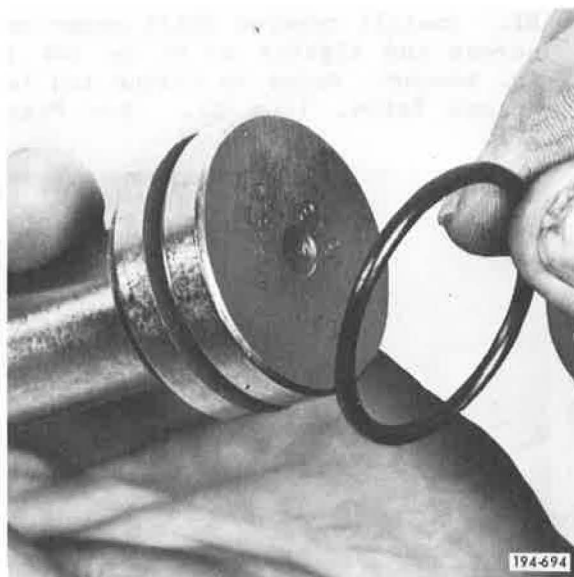

Figure 268. Installing O-Ring
18. Install O-ring onto reverse shift rail. See Figure 268.